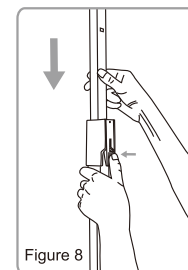

Figure 8
5. Press the Magic button to low down adjustable uphold bar to the lowest point. (Figure 8)